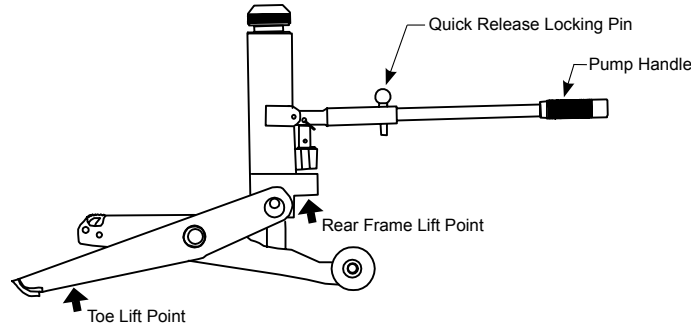

Figure 3
1. Identify the proper lift points on the jack (see Figure 3). The jack should be lifted using both the toe lift point and the rear frame lift point.